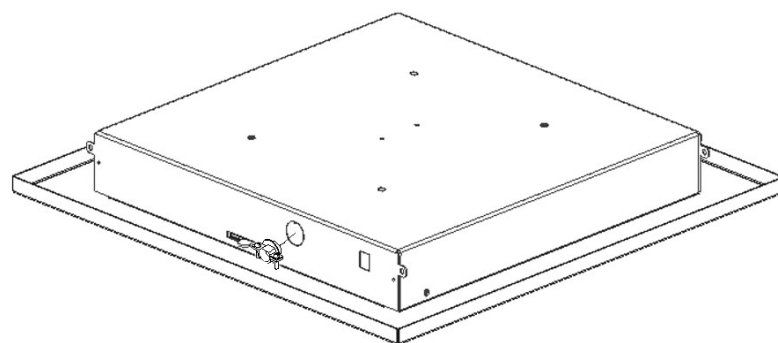

Figure 1.
Step 1 – Place the *ceiling enclosure assembly* on the work surface with the keyed doorway unlocked. The *eyebolts* will be used to secure the enclosure with grid wires (Ref. *Figure 1*).